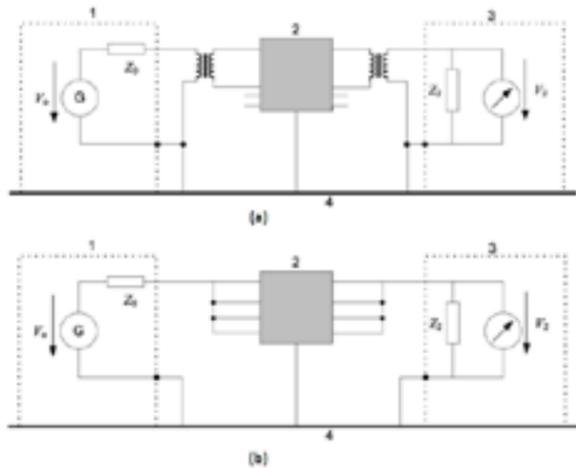

Figure 1 Test set-up for insertion loss, CISPR 17 (a) symmetrical (b) asymmetrical
Take a 50 $\Omega$ /50 $\Omega$  (source impedance/load impedance) system for instance, CISPR 17 defines two tests to measure the filter performance, which are symmetrical (differential mode) and asymmetrical (common mode). The test set-ups are shown in Figure 1. The signal generator (G) performs a signal sweep between defined frequency range and the voltage over the load (Z2) is measured.